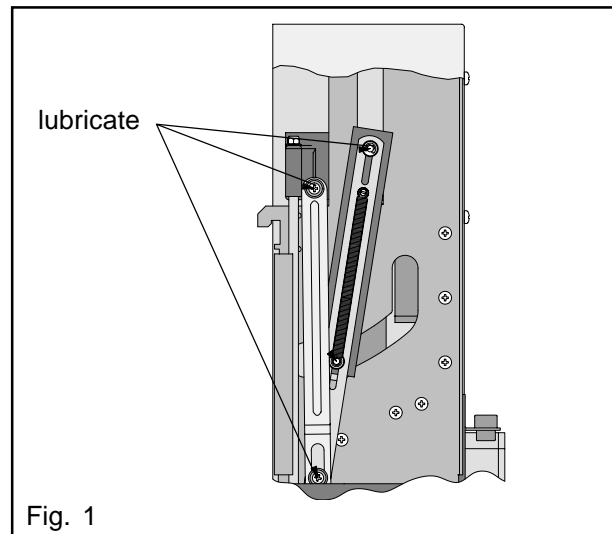

Fig. 1
- Before starting to maintain the dispenser switch it off with the main switch (1). (fig. 1)
- Lubricate the moving parts of the scraper arms with Molykote Longtherm (fig. 1).